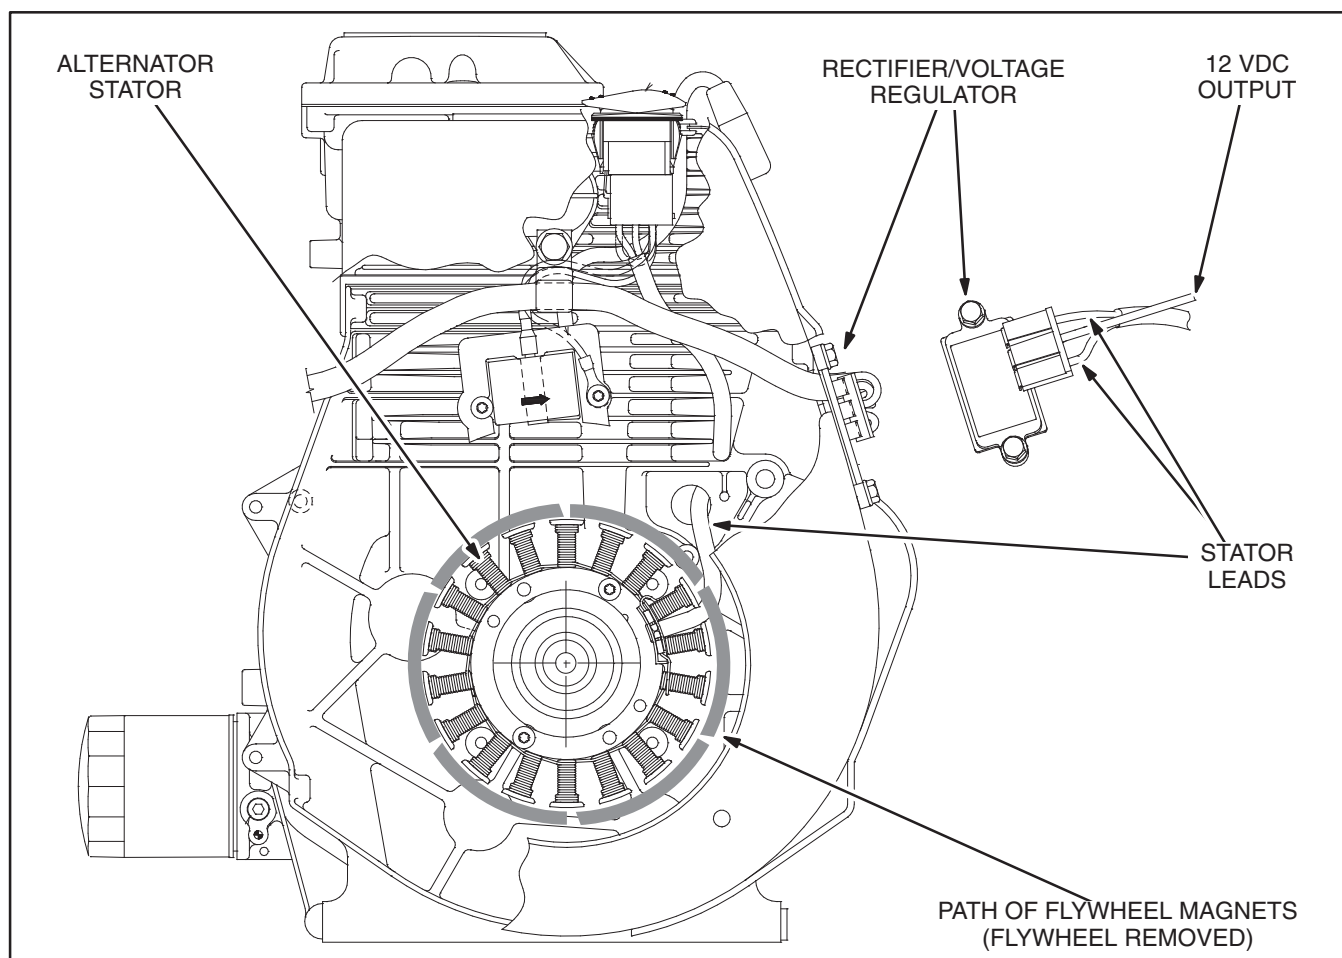

FIGURE 6-4. FLYWHEEL ALTERNATOR AND VOLTAGE REGULATOR
The engine may be equipped to provide a 12 volt DC (Direct Current) output for powering equipment accessories and/or recharging the cranking battery (Figure 6-4). The system consists of a permanent magnet flywheel alternator and a solid state rectifier/voltage regulator. There are two output ratings available: 5 amp and 20 amp. The 5 amp system has 3 magnets in the flywheel and the 20 amp system has 6.
3. Disconnect the alternator stator leads from the voltage regulator (see Figure 6-4) and test for alternator stator output (AC voltage) with the engine running. If stator output is less than specified, go to Step 4. If stator output is as specified but voltage regulator output is low, replace the voltage regulator.